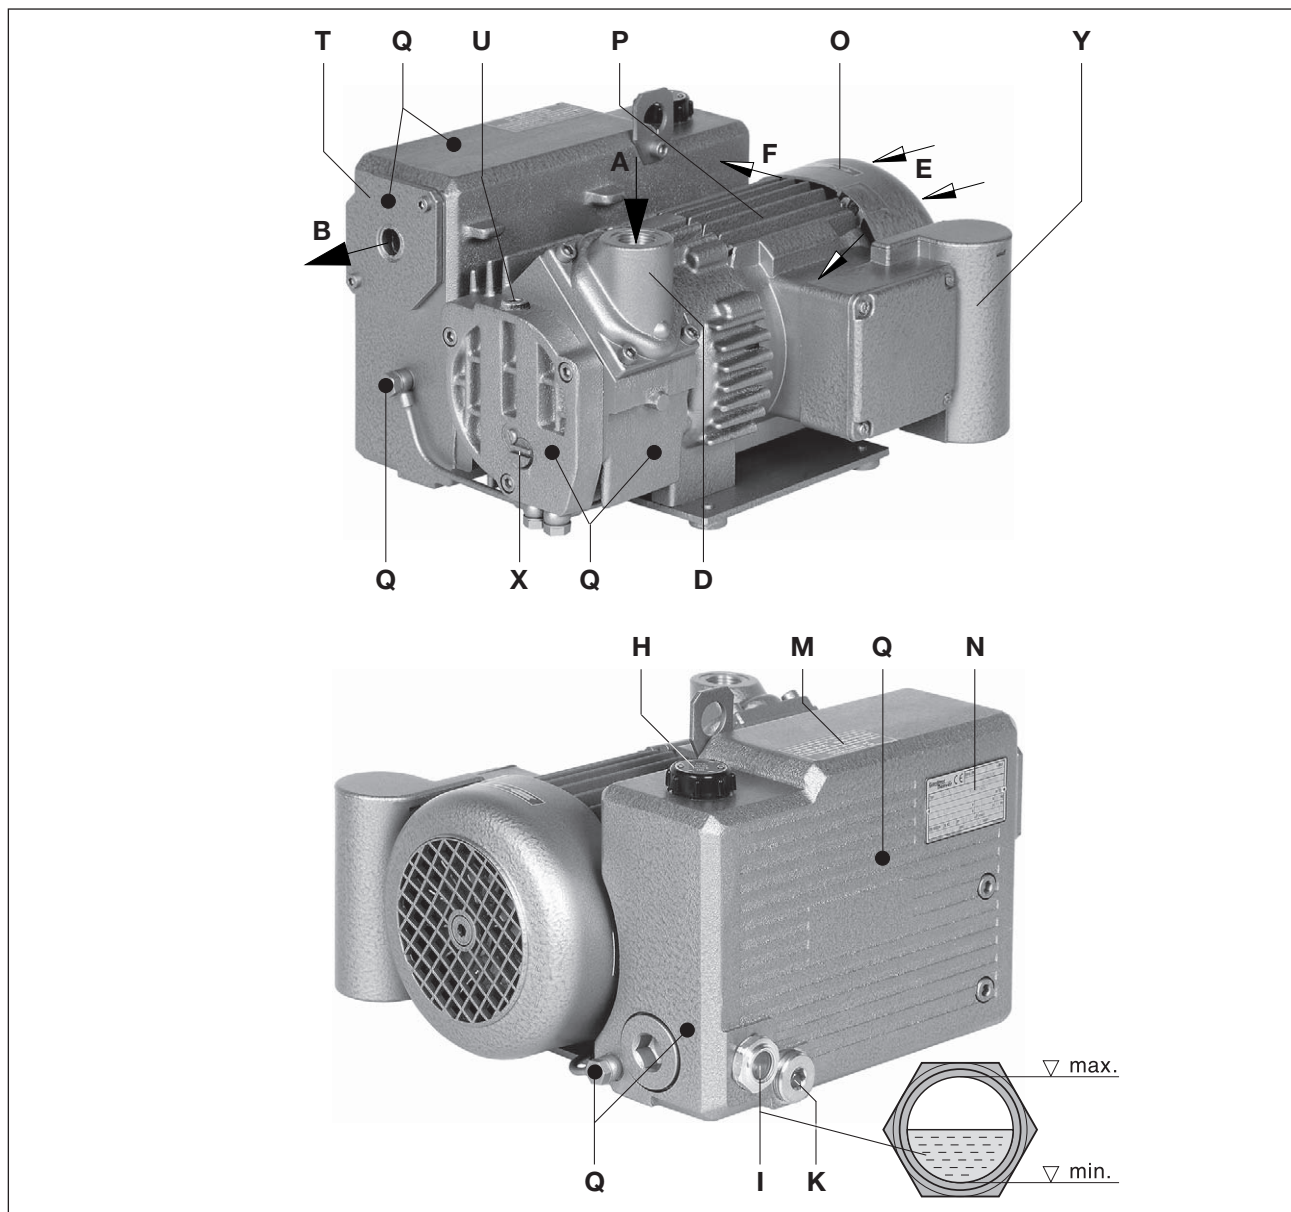

Fig. 2 Vacuum pump V-VGD 10 / V-VGD 15
A gas ballast valve ((Fig. 2/U) →Accessory) prevents water vapour condensation getting inside the pump when low amounts of steam are sucked in when the pump is at operating temperature.
The max. final vacuum (fine vacuum 2 mbars (abs.) or gross vacuum 10 mbars (abs.) can be specified by the operator (see adjustment bolt (Fig. 2/X)).
The oil filling point (Fig. 2/H), oil sight glass (Fig. 2/I) and oil outlet (Fig. 2/K) must be easily accessible. The cooling air inlet (Fig. 2/E) and the cooling air outlets (Fig. 2/F) must be at least 15 cm away from adjacent walls. Cooling air coming out must not be sucked in again. For maintenance work there must be 30 cm in front of the angle flange (Fig. 2/D) and the purging cover (Fig. 2/T)
**The air vent (Fig. 2/B) must not be closed or restricted.**
- a) The vacuum connection (Fig. 2/A) is on the angle flange (Fig. 2/D).
- b) The discharged air can be freely blown out through the exhaust air hole (Fig. 2/B) or conducted away using a hose or pipe.
- a) Fill the lubricating oil (for suitable types see the „Maintenance“ section) via the oil filling point (Fig. 2/H) up to the upper edge of the sight glass (Fig. 2/I).
- a) The electrical motor data can be found on the data plate (Fig. 2/N). The motors comply with DIN EN 60034 and are in protection class IP55 and insulation class F. The appropriate connection diagram is located in the motor's terminal box (not for the plug connection version). The motor data must be compared with the data of the existing mains network (current type, voltage, network frequency, permitted current value).
When the machine is at operating temperature the surface temperatures on the components (Fig. 2/Q) may go above 70°C. You must avoid touching the hot surfaces (marked with warning plates).
- ▷ The drive shaft direction of rotation is shown by the rotation direction arrow (Fig. 2/O) on the motor flange.
- b) After correcting the direction of rotation if necessary, start the motor again and stop it again after 2 minutes in order to top missing oil up to the upper edge of the sight glass (Fig. 2/I). The filling point must not be open when the pump is running.
- ▷ The operating range can be set by turning the adjusting bolt (Fig. 2/X, 4/X).